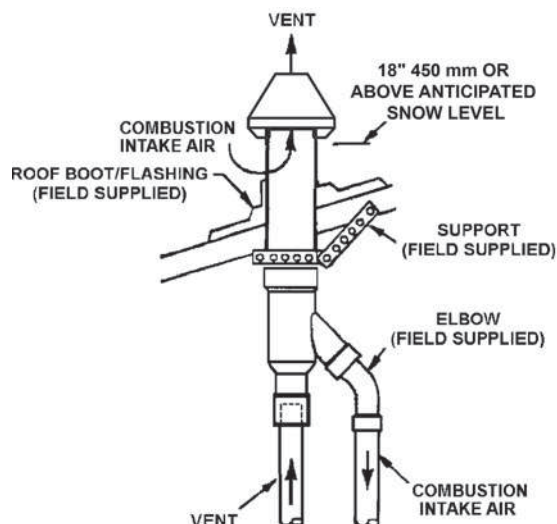

Figure 23
- Secure assembly to roof structure as shown in Figure 23 using field supplied metal strapping or equivalent support material.
NOTE: Ensure termination height is above the roof surface or anticipated snow level as shown in Figure 23.
- Cement water heater combustion air intake and vent pipes to concentric vent termination assembly. See Figure 23 for proper pipe attachment.